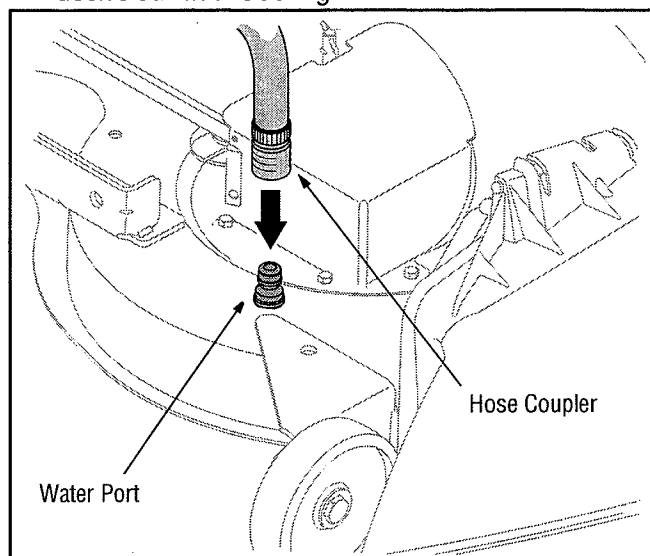

Figure 19
4. Attach the hose coupler to the water port on your deck's surface. See Figure 19.